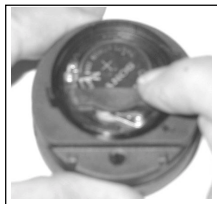

Fig. 67 - INSERTING
- Orient the Retaining Bar across the lower portion of the Battery and carefully push it down into position (Fig. 67).